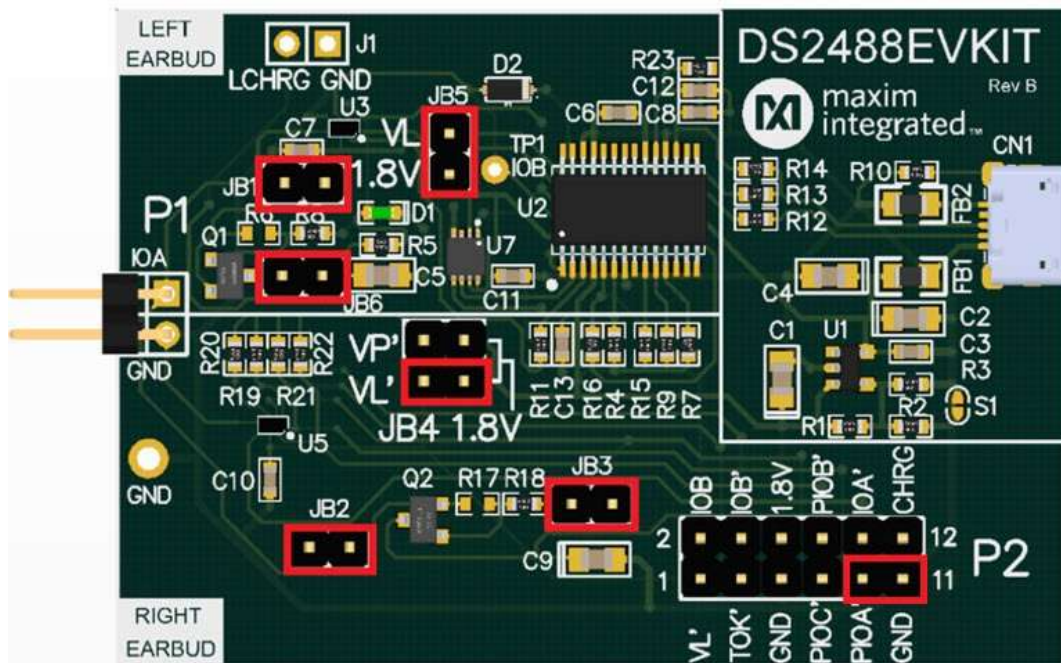

Figure 2.
3. Populate DS2488EVKIT's JB1, 2, 3, 4, 5, and 6 and connect to DS9401 (i.e., emulating earbuds in the charging box). See Figure 2.